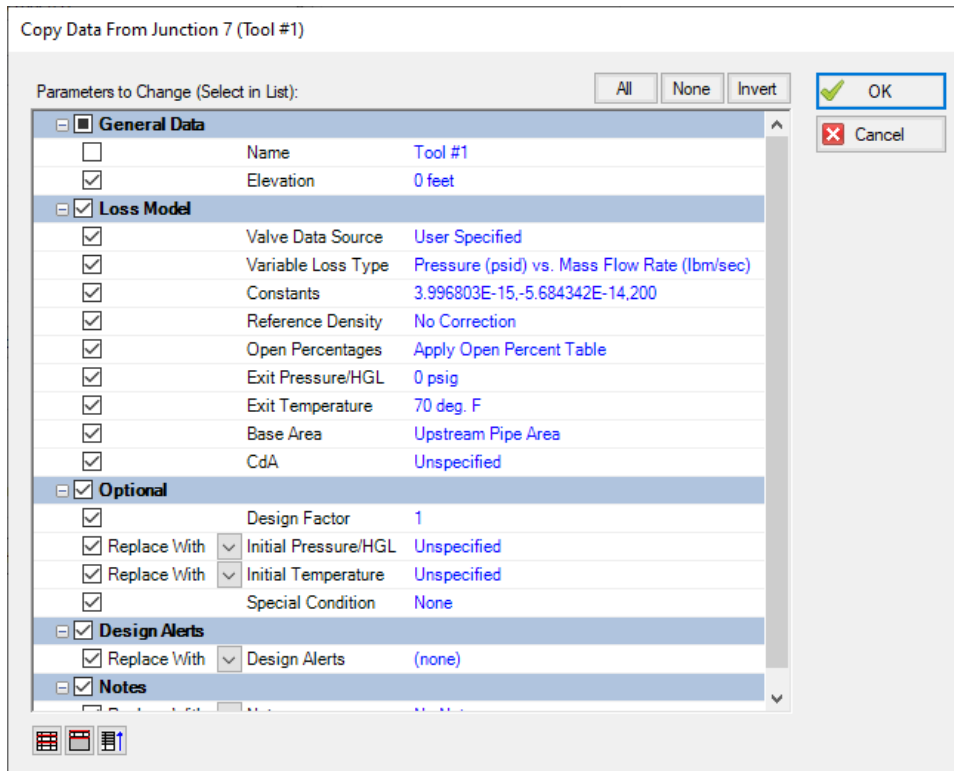

Figure 3: Copy Data From Junction 7 window for J8
- a. Open the Valve Property window, and in the Copy Data From Jct drop-down list at the top, select J7. This will open the Copy Data From Junction window. Click All at the top. This will cause all of the properties to be set to the same as the properties for J7. Since you want the J8 tool to retain its unique name, click on the check box next to the Name parameter to deselect it (see Figure 3). Click OK. J8 now has all of the same properties as J7 except for the junction name.